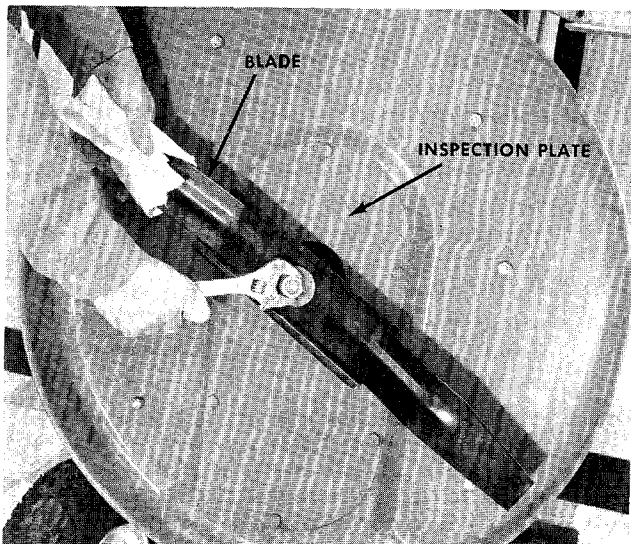

FIGURE 14. BLADE REMOVAL
Step 1. Remove the blade by removing the hex lock-nut in the center of the blade. Hold the blade with one hand and using a $\frac{7}{8}$ " open end, box or adjustable wrench, remove the nut. See figure 14.
- Step 2. Remove the blade by removing the hex locknut in the center of the blade. Hold the blade with one hand and using a $\frac{7}{8}$ " open end, box or adjustable wrench, remove the nut. See figure 14.
Step 2. Remove the blade by removing the hex lock-nut in the center of the blade. Hold the blade with one hand and using a $\frac{7}{8}$ " open end, box or adjustable wrench, remove the nut. See figure 14.